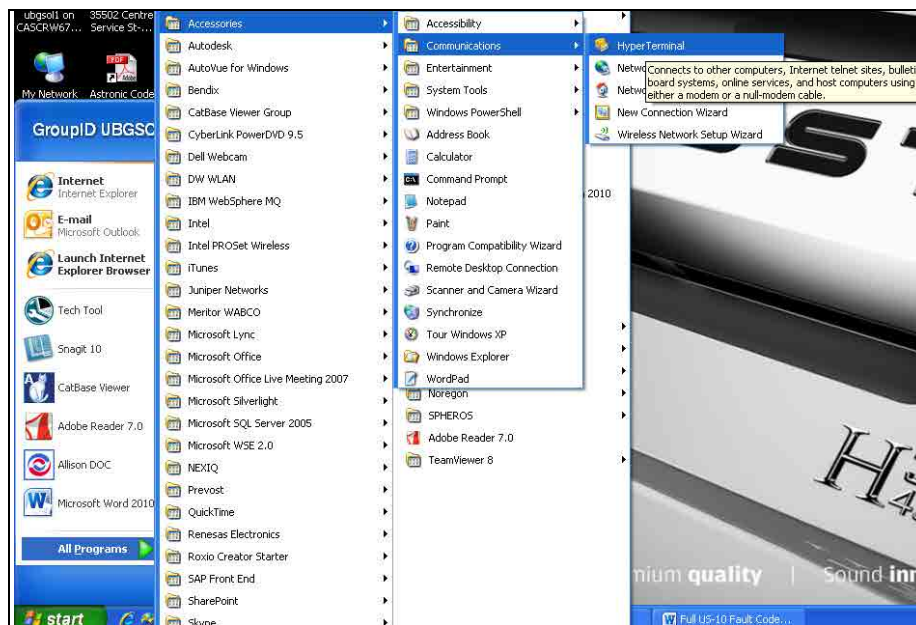

Fig.12
5. Go back to the Windows menu click: *All Programs/Accessories/Communications/HyperTerminal* (Fig.12).